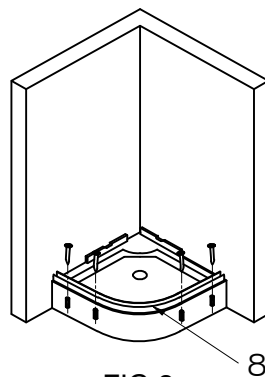

FIG.2
5. Screw the bottom rail securely to the base with 3/4" screws. [SEE FIG.2]